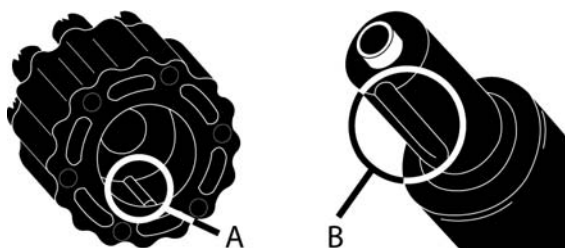

FIGURE 3
1. Align guide tab on inside of Utility Brush (FIGURE 3-A) with groove on bottom of Steam Jet Nozzle tip (FIGURE 3-B), and firmly press Utility Brush onto Steam Jet Nozzle.